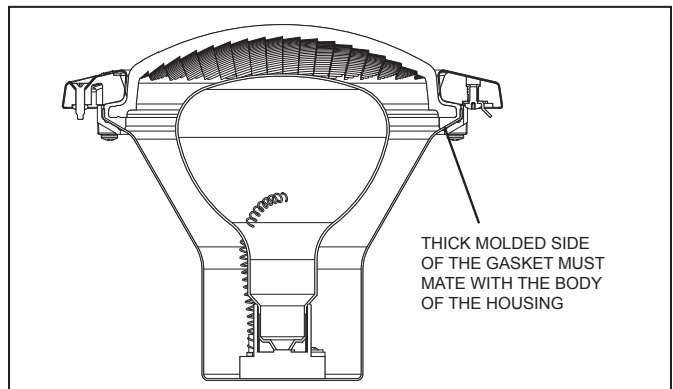

Figure 11. Cross Section of Jandy Pro Series Pool White Light
- b. While holding the fixture upright, place the glass lens with the gasket on top of the fixture. Please note that the lens gasket is not symmetrical. Therefore, it must be installed correctly so that the lens can seal to the fixture housing. Place the gasket on the lens so that the thick molded side of the gasket will mate with the housing when the lens is installed. See Figure 11.